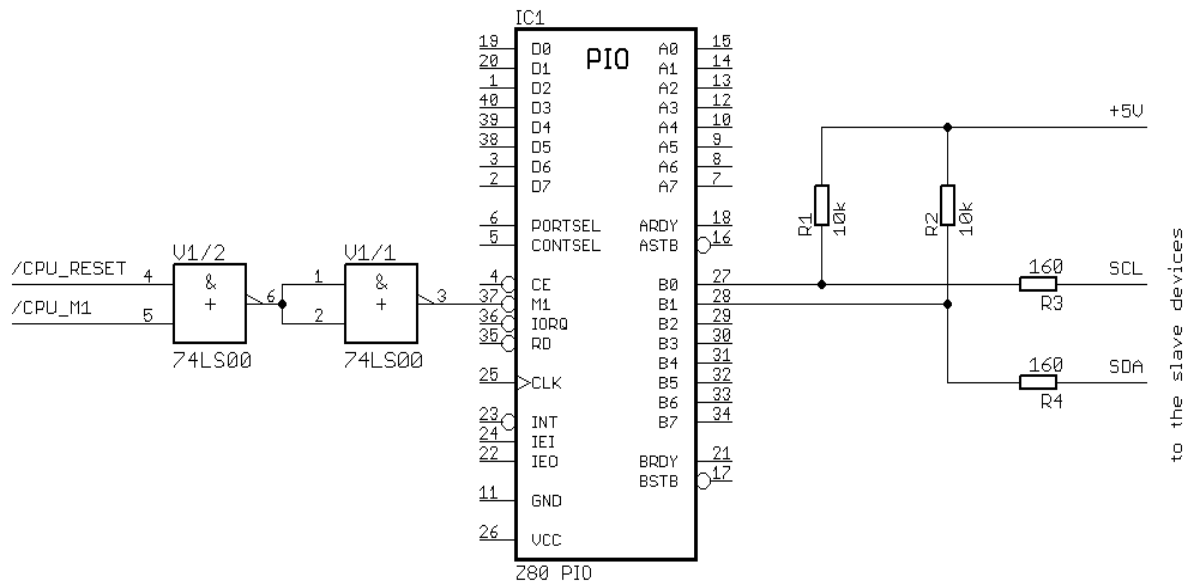

Figure 5: external resistors
The I2C bus is connected to PIO port B with B0 driving SCL, and B1 driving and reading SDA as shown in Figure 5.
A typical I2C master has **open-drain** pins. The Z80 PIO does not have open-drain outputs on its ports A and B. Instead they are of push-pull characteristic which requires two additional series resistors R3 and R4 as shown in Figure 5. R1 and R2 are mandatory for an I2C master2.
**Note 1:** I recommend the AND-ing of the CPU Reset and the CPU M1 signal to form the PIO M1 signal. This makes the PIO starting up properly upon system reset (please see Figure 5).